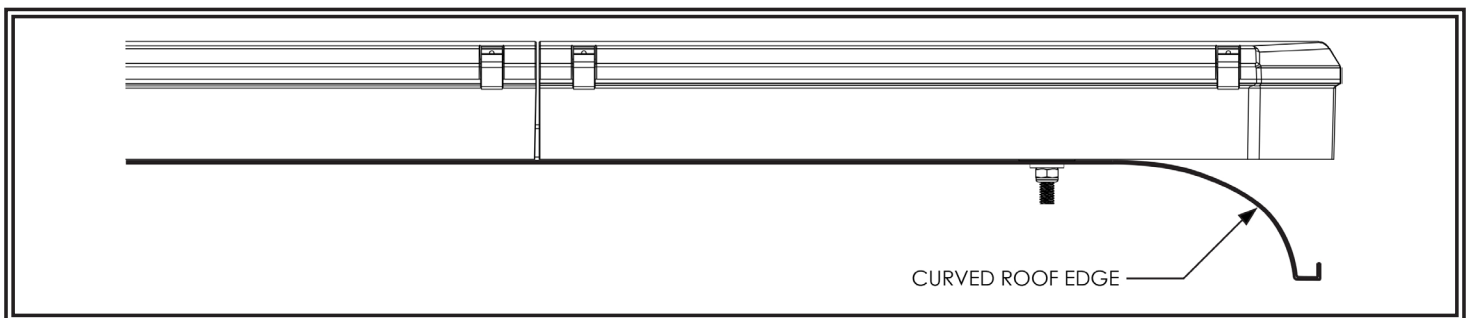

Figure 2
2. Insert the four (4) 5/16"-18 carriage bolts in the channels on the under side of the lightbar.
3. Place the lightbar over the center of the vehicle and slide the mounting hardware into position near the curved edge when possible as shown in FIGURE 2.